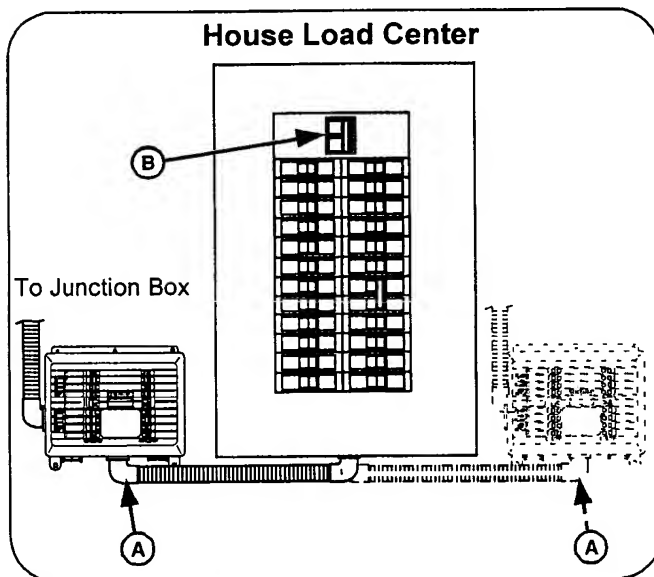

Figure 3. Manual Transfer Switch Placement
1. Ensure that there is a proper space next to the house load center to properly mount the manual transfer switch. The manual transfer switch can be mounted either to the right or to the left of the load center. Refer to Figure 3.